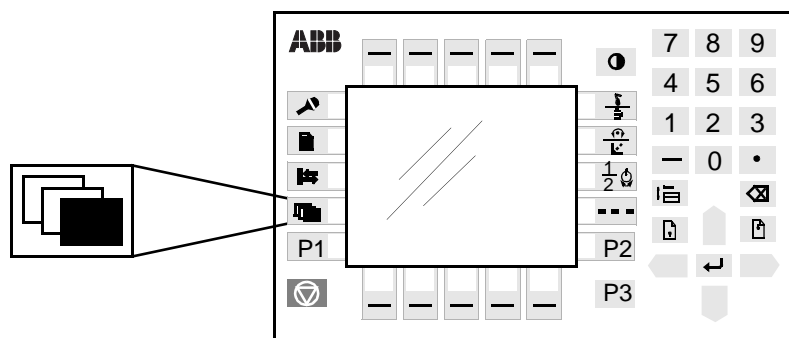

Figure 6 The Misc. window key.
3. Press the **Misc.** window key (see Figure 6).